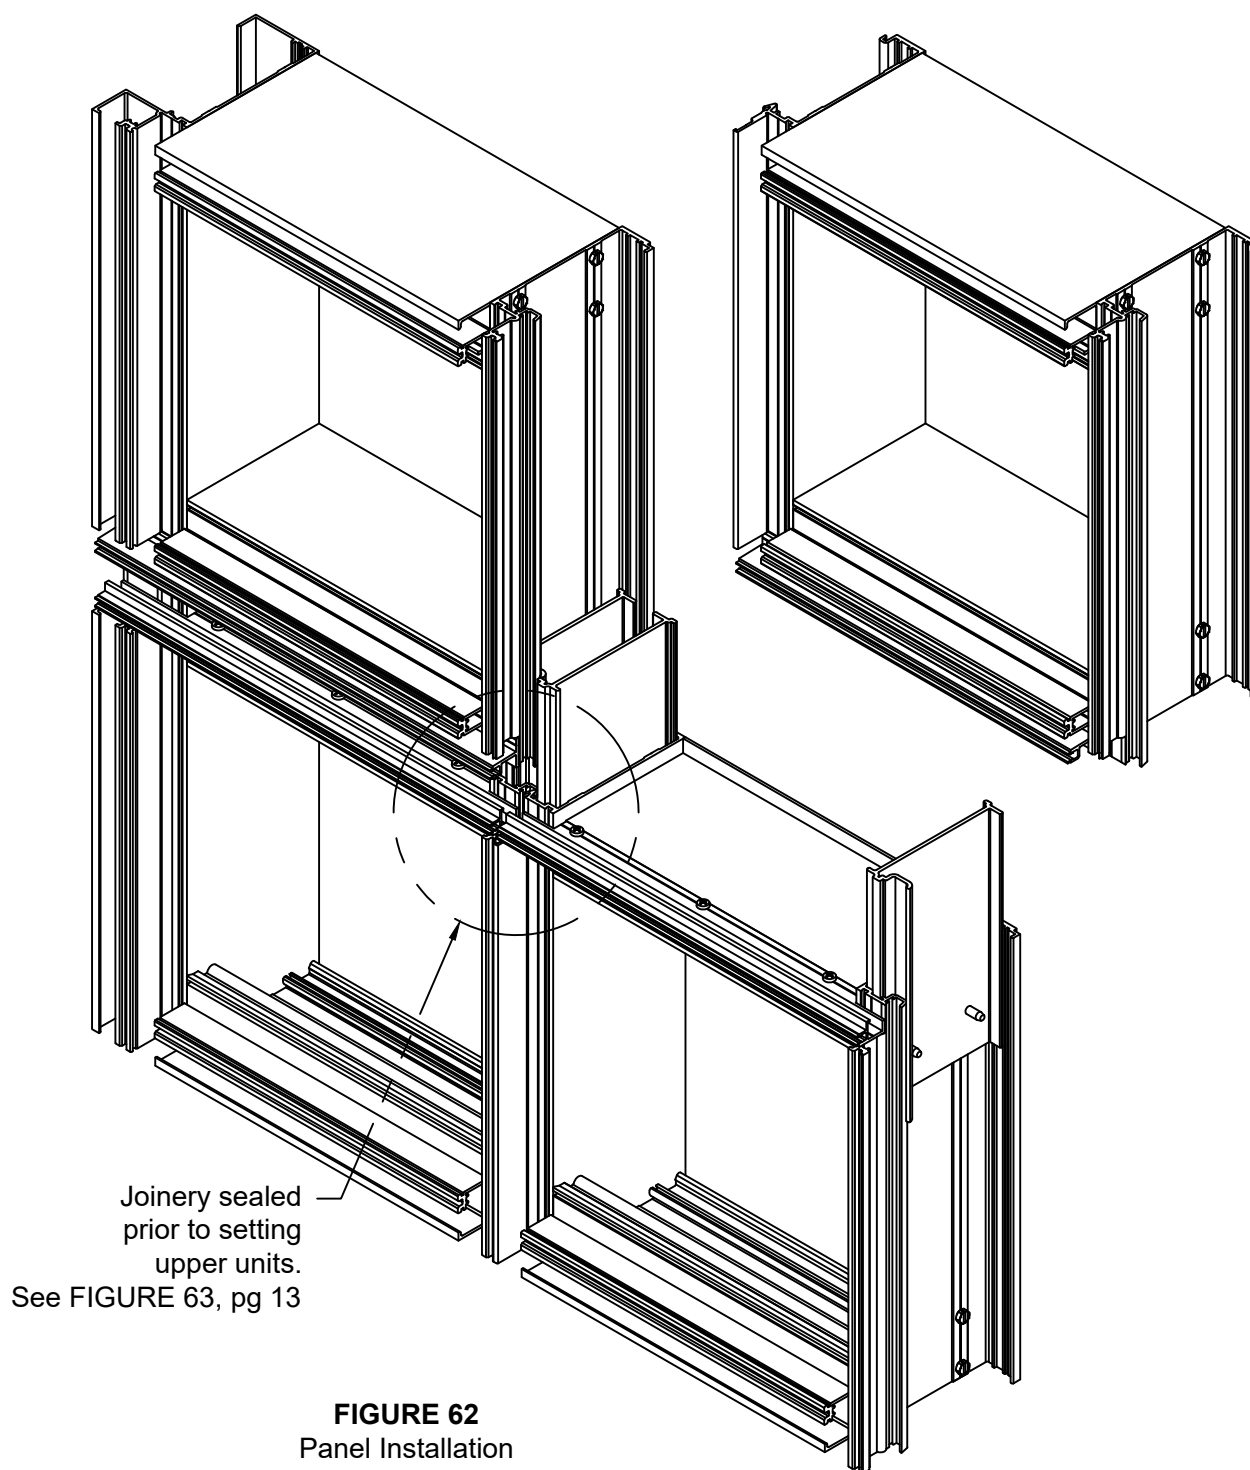

**FIGURE 60**
- 6.9 Install WW- 258 lower gasket retainer to face of horizontal. Bed in continuous bead of sealant and cap seal all fasteners. A 1/4" joint will be located at mull center lines. Attach with FS-13 (#10 x 1" PPH Tek) at 12" on center. **See FIGURE 60**
- 6.10 Install HP-1004 baffles , held in place using SPW-295 baffle retainer. Apply a small amount of sealant to back edge of SPW-295 to hold in place during shipment. Seal ends of horizontal to vertical mullions as shown in **FIGURE 60**. Assembly and sealing of gasket retainer should be performed as part of shop assembly of screw spline frames.